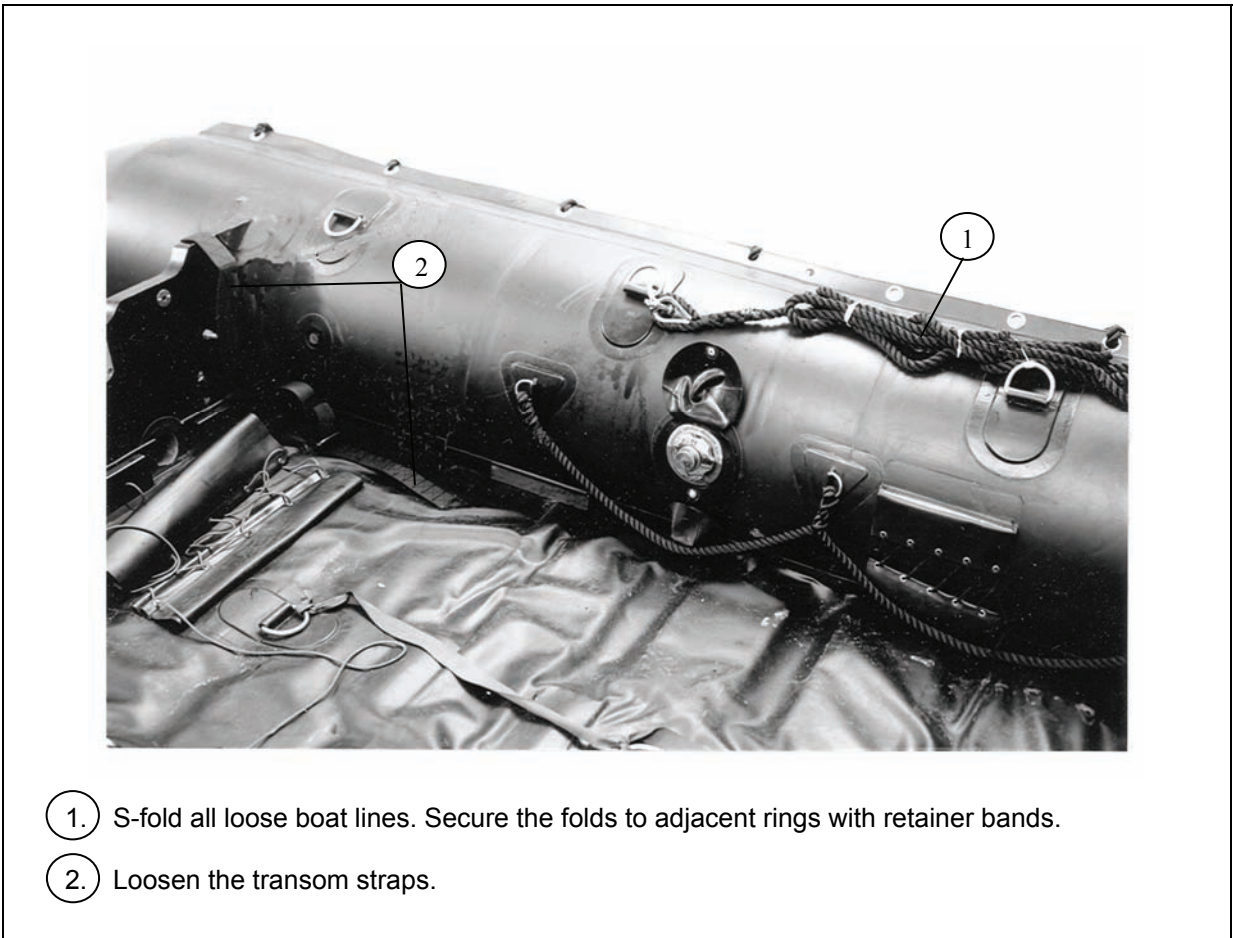

Figure 3-7. Boat Prepared
- Prepare the boat as shown in Figure 3-7